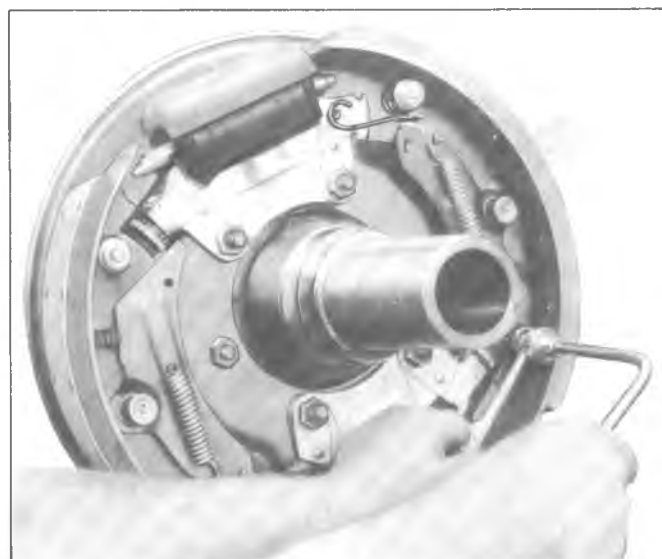

Fig. 51—Removing Hold Down Pins Using J-22348
5. Remove the brake shoe hold down springs and pins by compressing the spring with Tool J-22348 and, at the same time, pushing the pin back through the flange plate toward the tool. Then, keeping the spring compressed, remove the lock from the pin with a magnet (fig. 51).